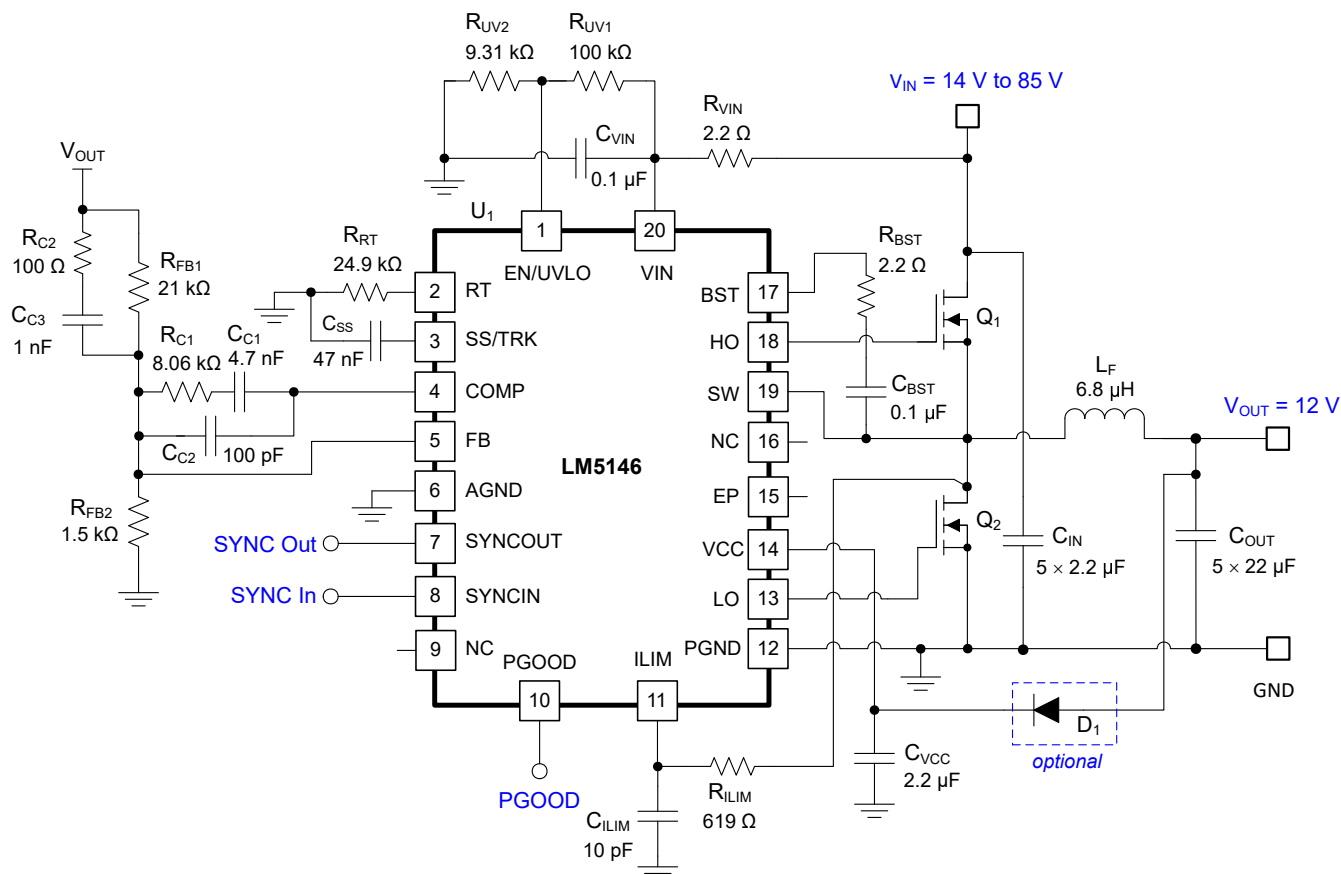

Figure 9-16. Application Circuit 2 With LM5146 48-V to 12-A Synchronous Buck Regulator at 400 kHz
Figure 9-16 shows the schematic diagram of a 400-kHz, 12-V output, 8-A synchronous buck regulator intended for 48-V telecom applications.
As shown in Figure 9-16, a 2.2- Ω resistor in series with C_{BST} is used to slow the turn-on transition of the high-side MOSFET, reducing the spike amplitude and ringing of the SW node voltage and minimizing the possibility of C_{dv}/dt -induced shoot-through of the low-side MOSFET. If needed, place an RC snubber (for example, 2.2 Ω and 100 pF) close to the drain (SW node) and source (PGND) terminals of the low-side MOSFET to further attenuate any SW node voltage overshoot and/or ringing. Please refer to the application note Reduce Buck Converter EMI and Voltage Stress by Minimizing Inductive Parasitics for more detail.
3. Placing a 2- Ω to 10- Ω resistor in series with the boot capacitor, as shown in Figure 9-16, slows down the high-side MOSFET turn-on transition, serving to reduce the voltage ringing and peak amplitude at the SW node at the expense of increased MOSFET turnon power loss.